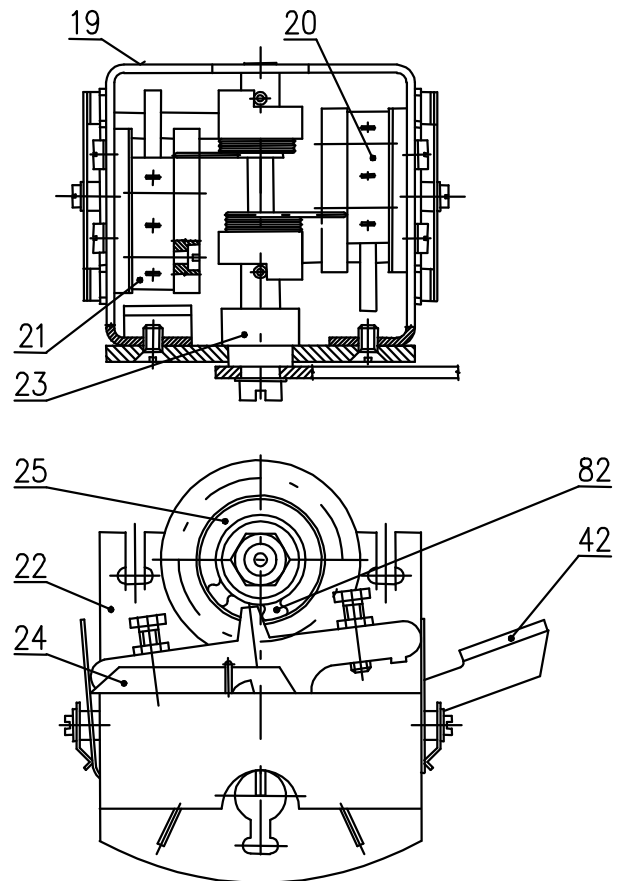

Fig.5
- torque unit (Fig. 5)
- locking mechanism (82) (Fig. 5)
Torque unit (Fig.5) consists of a carrier, on which are displaced switches S1 (20) and S2 (21). On the shaft (23) are mounted disconnecting levers (24), keeping switches pressed by spring tensions until a moment when the shaft is turned out of the mesh of torque disconnection.
Locking mechanism (82) (Fig.5) provides locking of torque disconnection usually to 5-10 or 3-6 turns after reversing of electric actuator. After elapsing of adjusted revolution will torque unit acquire its original function.